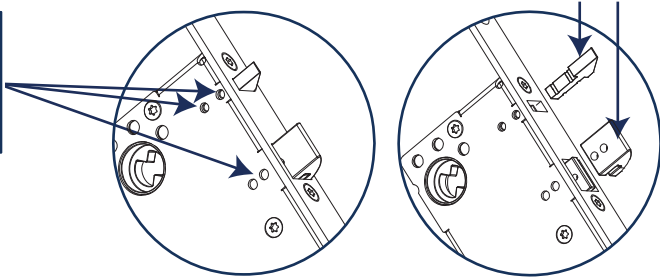

FIG. 2
**Door magnet (see fig. 2)****Setting exit handle side SL 520/521**
1. Open the lid on lock case (see fig 2).